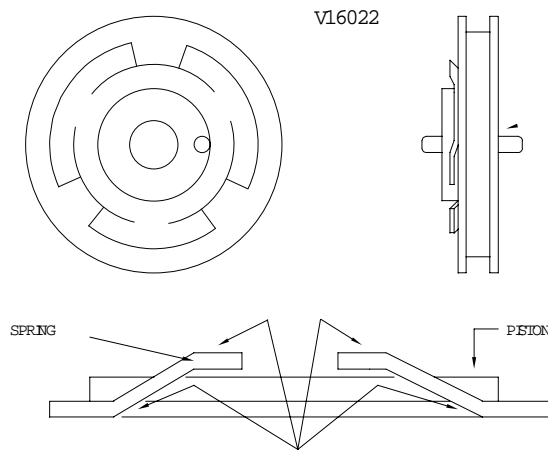
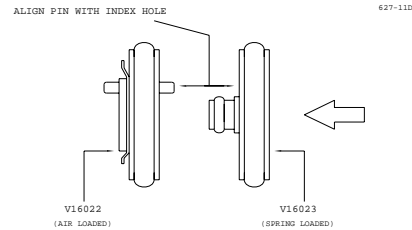

Figure 4-46: Greasing of Spring Pressure Points
Figure 4-47: Valve Base Alignment Pin
19.	Apply KRYTOX 240 AC in both "O" ring grooves of spring-loaded piston (14)
21.	Apply KRYTOX 240 AC grease to each of the fingers of the finger spring (10) of air-loaded piston (11).
22.	Place air loaded piston (11) over the small diameter of spring-loaded piston (14) with finger springs (10) outside. Align piston with guide pin. Refer to Figure 4-47.
23.	Apply a bead of KRYTOX 240 AC grease to the "O" ring air-loaded piston (11) groove. Refer to Figure 4-46.
24.	Install silicone "O" ring (9) and apply grease to the "O" ring outer surface.
25.	Apply a thin film of KRYTOX 240 AC grease to inside of valve body (8) where the pistons (14 and 11) will be sliding.
26.	Insert both pistons (14 and 11) into the bottom of cylinder. Use retaining ring pliers to install the pistons with the guide pin in the hole of the valve body (8). Refer to Figure 4-47.